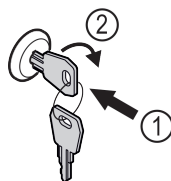

Fig. 204
- Insert the key. Fig. 204 (1)
- Turn the key clockwise by 90°. Fig. 204 (2)